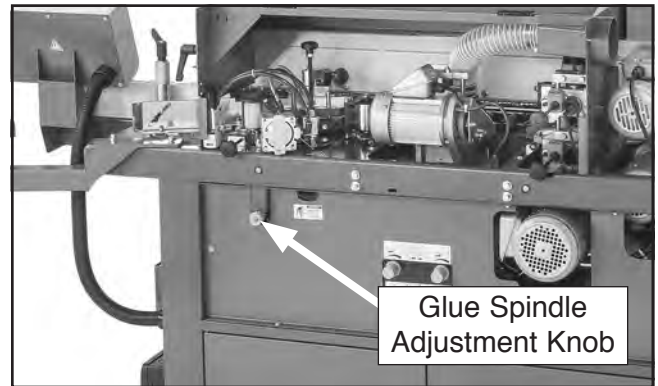

Figure 96. Location of glue spindle adjustment knob.
3. Rotate glue spindle adjustment knob clockwise several turns to move glue spindle out of the way (see **Figure 96**).